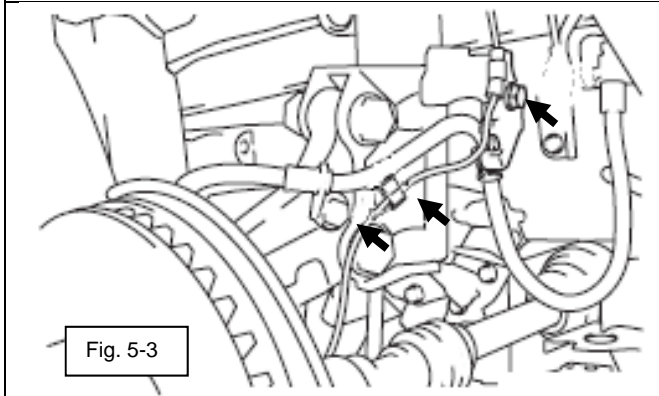

Fig. 5-3
- (c) Attach front flexible brake hose and speed sensor if equipped. (Fig. 5-3)
- (1) Install the flexible hose and speed sensor without twisting them.